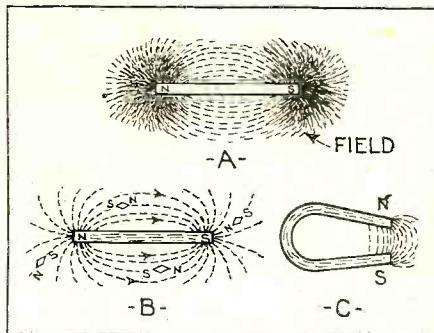

FIGURE 2
If fine iron filings are sprinkled over a piece of thin paper placed on a magnet, they will arrange themselves in definite lines around the magnet as shown in (A) of Figure 2. These lines mark out the general direction of the magnetic force around the magnet. If a short magnetic compass needle is moved around in the field of the magnet, it will set itself in the direction of the magnetic force acting at any point in the field at which it is placed, as shown at (B) of Figure 2. Thus the complete field around a magnet may be plotted either by means of iron filings or a short compass needle, even though the magnetic forces are themselves invisible. The magnetic maps or figures obtained in this way are often of great service in showing the actual distribution of the magnetic field in a magnetic device. Thus the intensity and directions of the fields around power transformers and choke coils in electric radio receivers may be easily studied by these methods. The strength of the magnetic field at any point is expressed in terms of lines of force per square inch at the point considered. This is called the *flux density*.